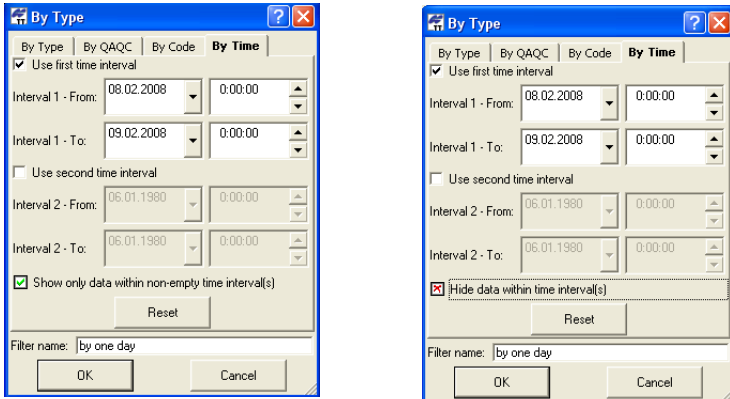

Figure 4-73. Select By Time Filter
To hide/display data basing on time, select the *By Time* tab on the *By Time* dialog box (Figure 4-73 on page 4-77).
2. On the *By Time* tab, select the *From* and *To* time filters for *interval 1* and *interval 2* to apply to the job and select hide/display data within the specified time interval (Figure 4-73 on page 4-77).
- Click **Reset** to reset the time intervals (Figure 4-73 on page 4-77).